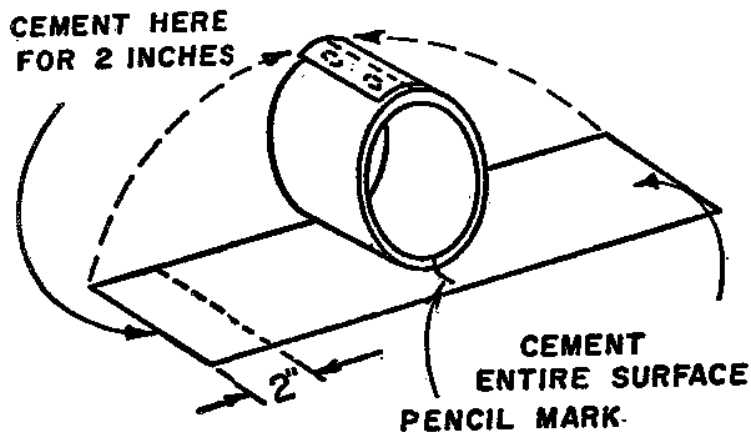

Figure 1
2. Before applying cement to plastic, wrap plastic around shell to be sure the overlap will be directly on a lug center-line. Mark the shell and the plastic with a pencil line. (See Fig. 1) The overlap joint should not exceed two inches—trim if necessary. Bass drums will have two overlap joints—see step 5.
3. Apply adhesive to the entire outer surface of shell and to entire back surface of plastic and to two inches at one end of the front of plastic where the overlap joint will be. See Fig. 1. Allow cement to dry thoroughly. Follow directions on can and be sure to allow sufficient drying time before joining plastic to shell. Joining the two surfaces together before the cement has set properly will result in a poor bond.